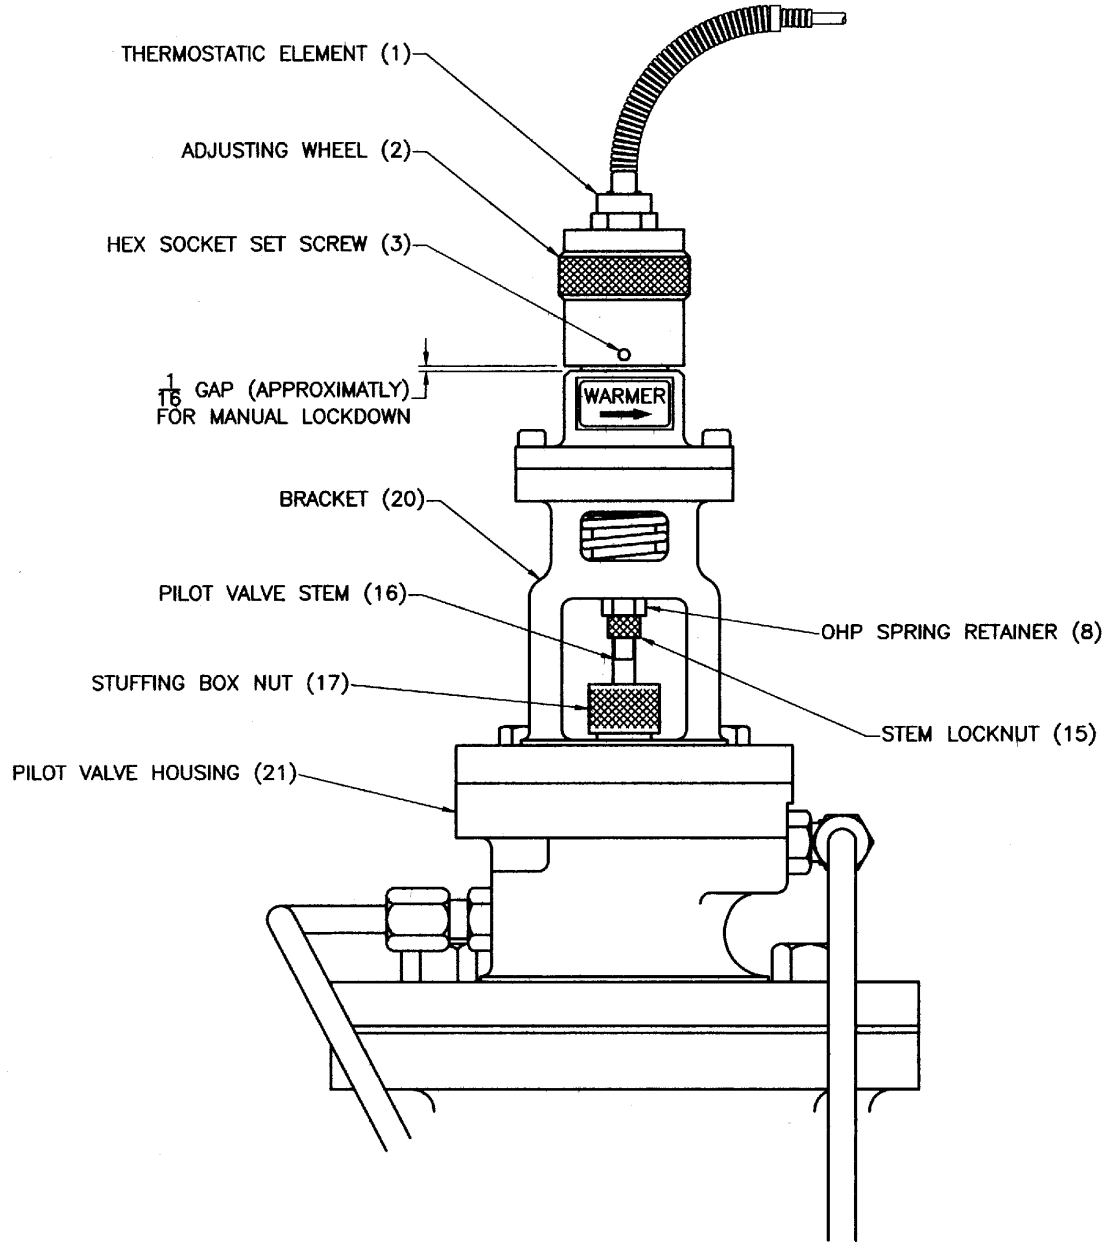

Figure 2 Pilot Assembly – Temperature Adjustment
11. For all adjustments, refer to Figure 2, Temperature Pilot.
49. Remove the Stuffing Box Nut (17) and Packing Gland (18). Replace the Packing set (19). Return the Packing Gland and Nut. Do not tighten the Stuffing Box Nut until the Pilot Assembly has been re-installed.
50. If the Pilot Valve Stem (16) had to be removed for cleaning or replacement, screw it into the Over Heat Protection (OHP) Spring Retainer (8).
51. Re-install the Pilot Valve Assembly with the four Screws (10) which hold the Pilot Bracket (20) onto the Pilot Valve Housing (21). If necessary, screw in the Pilot Valve Stem (16) into OHP Spring Retainer (8) enough to allow the Pilot Valve Assembly to seat properly on the Pilot Valve Housing (21). Tighten the Stuffing Box Nut (17) until it is just finger tight.
52. Refer to figure 2. Reassemble the Thermostatic Element (1) and Temperature Adjustment Wheel (2) to the Pilot Valve Bonnet (7). Loosen Set Screw (3) and turn Adjustment Wheel (2) down by HAND ONLY, (never use a wrench) until there is about 1/16" clearance from the bottom of the Adjusting Wheel (2) and the shoulder of the Pilot Valve Bonnet (7). Screw the Pilot Valve Stem (16) down until it makes positive contact with the Pilot Valve Seat (22). Use a 7/16" open end wrench to hold the OHP Spring Retainer (8) and a pair of needle nose pliers to tighten the Pilot Valve Stem Locknut (15) against the OHP Spring Retainer (without rotating the Pilot Valve Stem).